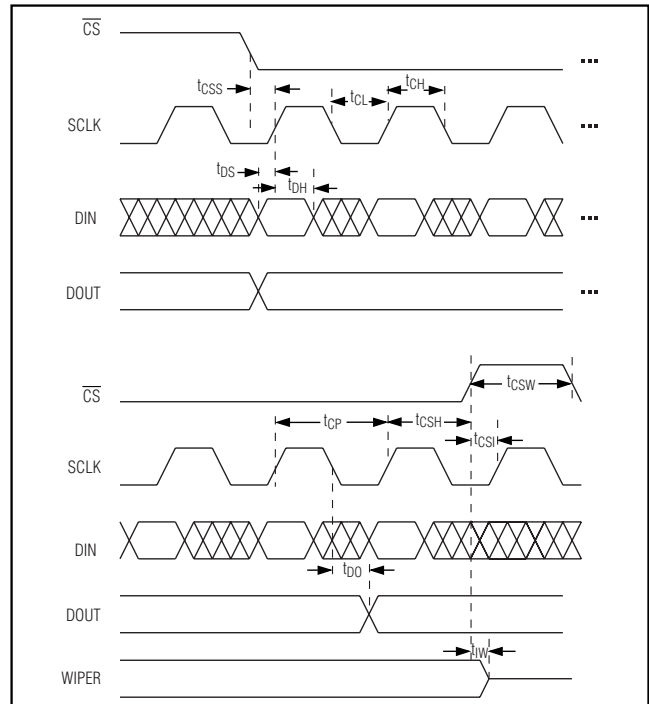

Figure 1. Serial Timing Diagram
TIMING CHARACTERISTICS (Figure 1)
The data bits control the position of the wiper (Table 7). A logic low on the chip-select input (CS) enables the device's serial interface. A logic high on CS disables the interface control circuitry. See Figure 1 for serial-interface timing description.